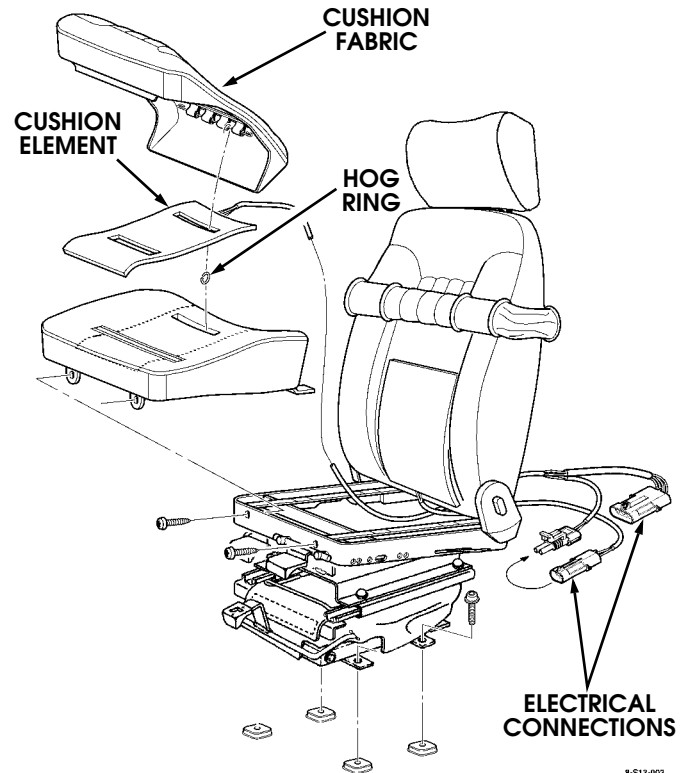

Figure 13-111: Seat Cushion Element Removal.
4. Using a screwdriver, release the fabric retaining clips and pull the fabric back to expose the fabric hold down wire and hog rings. Clip the hog rings and remove the fabric from the seat cushion (Figure 13-111).